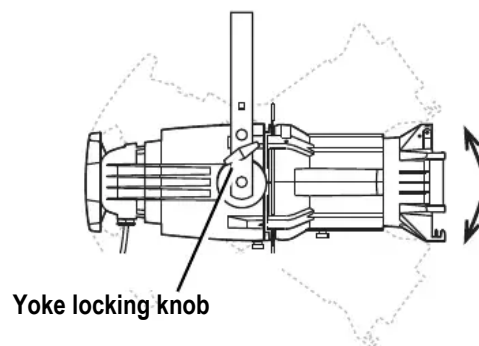

Figure 12
Step 1: Loosen the yoke locking knobs (see Figure 12). **Do not** remove them.